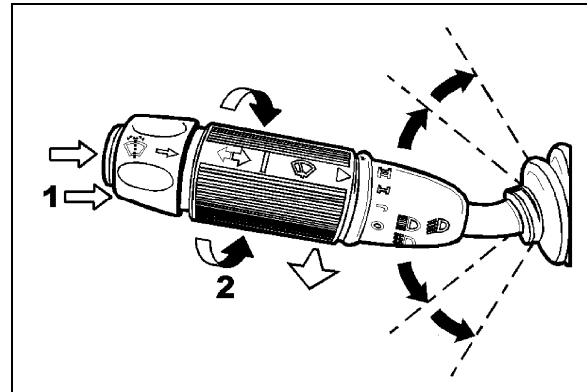

FIGURE 8: MULTIFUNCTION LEVER 23133
Turn the multifunction lever forward to activate windshield wipers (item 2, fig. 8). The first position operates the wipers at low speed and the second position operates the wipers at high speed. Turning the lever backwards will operate the wipers in the intermittent mode.
The windshield washer pumps are electrically operated and are controlled by a washer control ring on the multifunction lever (item 1, fig. 8).
The windshield wiper motor is located at lower front of the vehicle, behind the defroster panel. Refer to figure 8 for motor location.